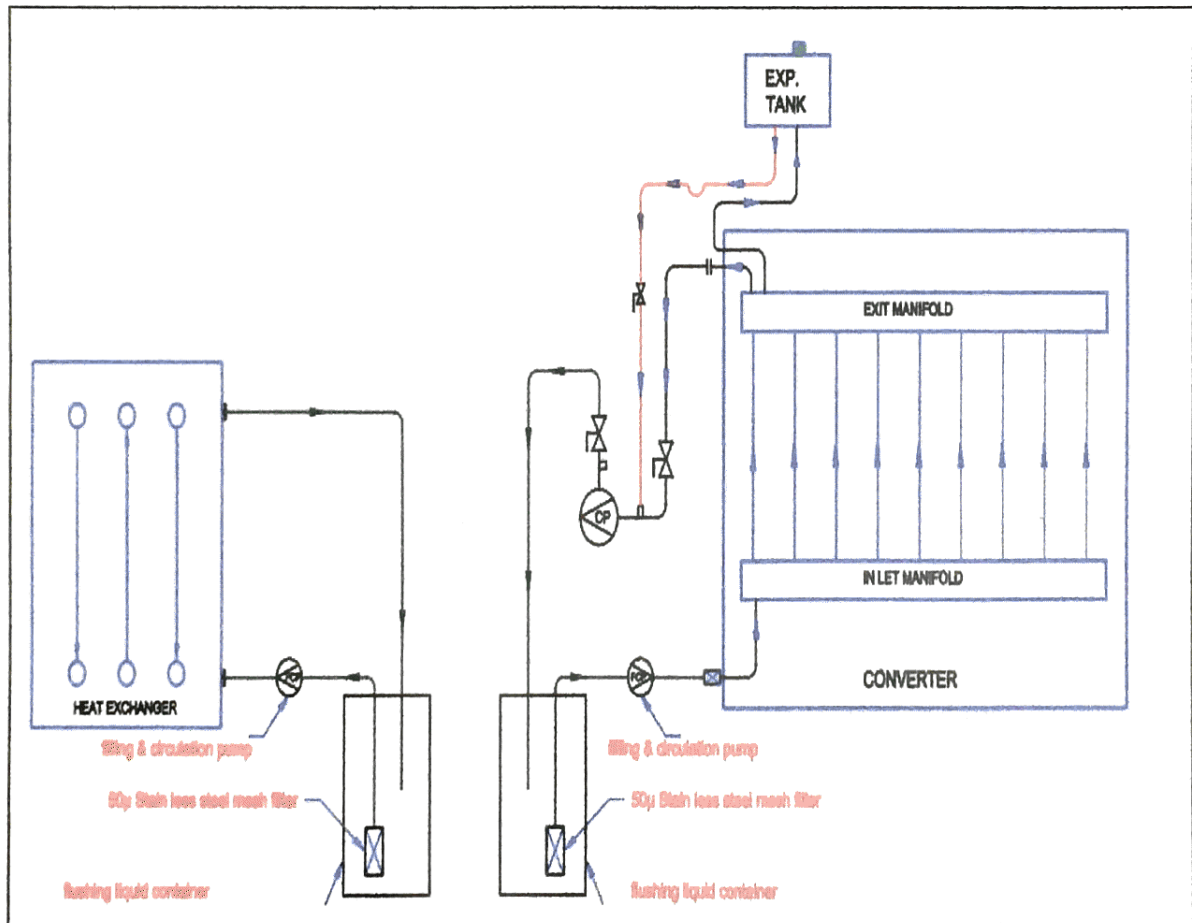

Figure-1: General Layout of hydraulic loop in traction converter
4.0 **Maintenance Instructions:** Procedure for flushing of hydraulic loop by Electric Loco Sheds (ELS) holding 3-phase locomotives, procedure for filling up the coolant in new locos at manufacturing units and testing procedure of coolant is detailed in following paragraphs and shown in Figure-1: